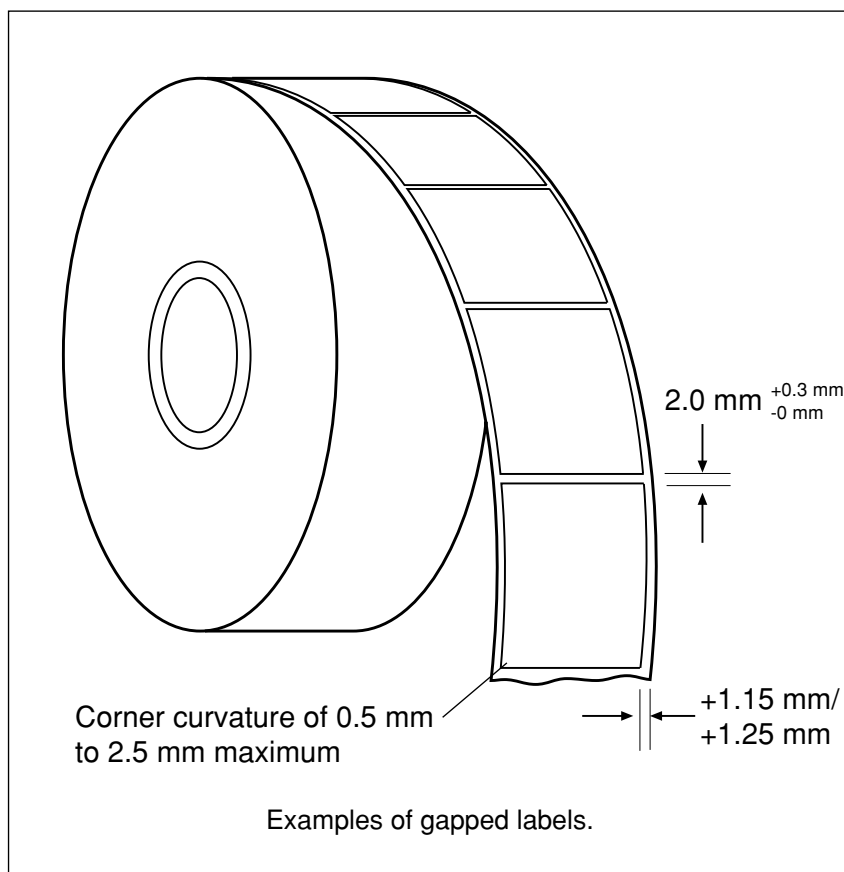

Figure 1a.
6. a) Labels are designed with radius corners with a minimum gap separation of 2 mm. (All dimensions assume radius corner designs with a corner curvature of 0.5 mm to 2.5 mm). See figure 1a.
6. Labels to be printed are positioned to peel off label roll as shown in figures 1a, 1b, 4, 5 and 6.